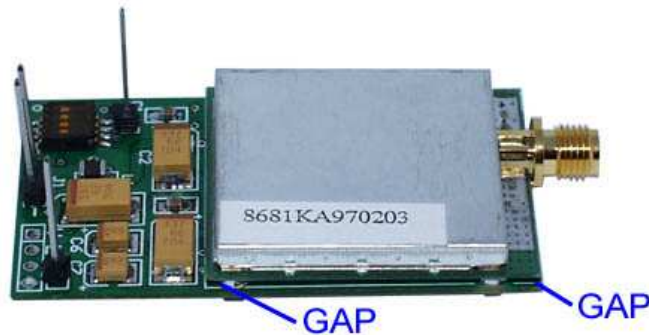

Figure 6, RF Module Installation
7 RF MODULE INSTALLATION: See Figure 6.
- 7.1 Place the AWM681TX module on the PCB (Side ③). It will have a gap between it and the PCB. It does NOT sit flush. See Figure 6 for details.